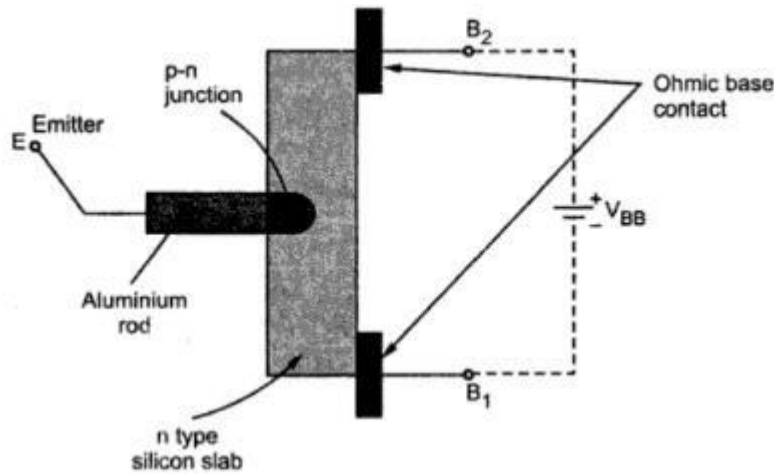

Fig. 6.30 Construction of UJT
It is a three terminal device, having two layers. It consists of a slab of lightly doped n type silicon material. The two base contacts are attached at both the ends of this n type surface. These are denoted as  $B_1$  and  $B_2$  respectively. A p type material is used to form a p-n junction at the boundary of the aluminium rod and n type silicon slab. The third terminal called emitter (E) is taken out from this p-type material. The n-type is lightly doped while p type is heavily doped. The basic construction is shown in the Fig. 6.30.